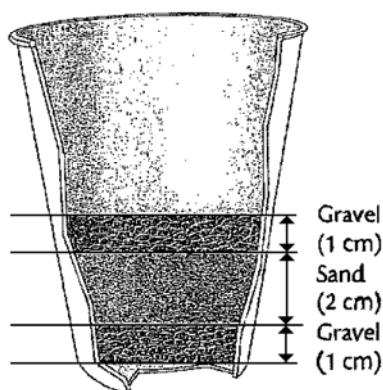

Figure 4 Sand filtration.
12. Add pre-moistened gravel and sand layers to the cup as shown in Figure 4. (The bottom layer of gravel prevents the sand from